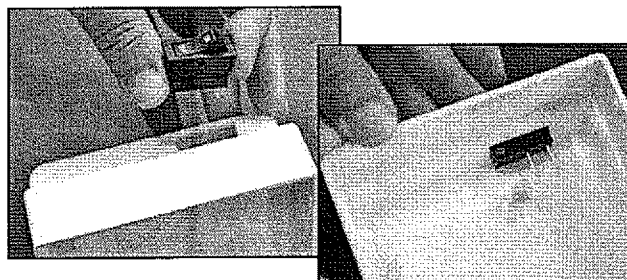

FIGURE 11
13. Install new switch into new module cover. See Figure 11.